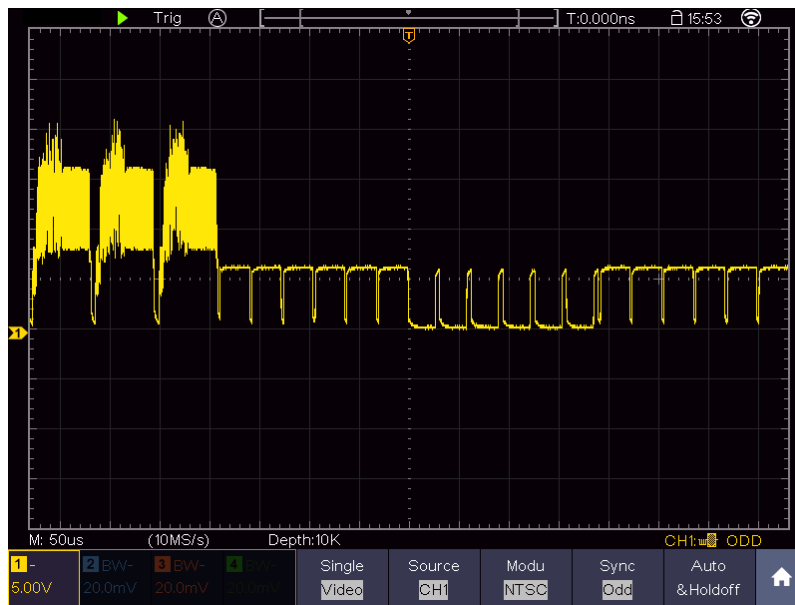

Figure 9-7 Waveform Captured from Video Field Trigger
- (1) Push the **Trigger Menu** button to display the trigger menu.
- (2) Select the first menu item in the bottom menu. Select **Single** in the right menu.
- (3) In the left menu, select **Video** as the mode.
- (4) Select **Source** in the bottom menu. Select **CH1** in the right menu.
- (5) Select **Modu** in the bottom menu. Select **NTSC** in the right menu.
- (6) Select **Sync** in the bottom menu. Select **Field** in the right menu.
- (7) Turn the **Vertical Scale**, **Vertical Position** and **Horizontal Scale** controls to obtain a proper waveform display (see *Figure 9-7*).